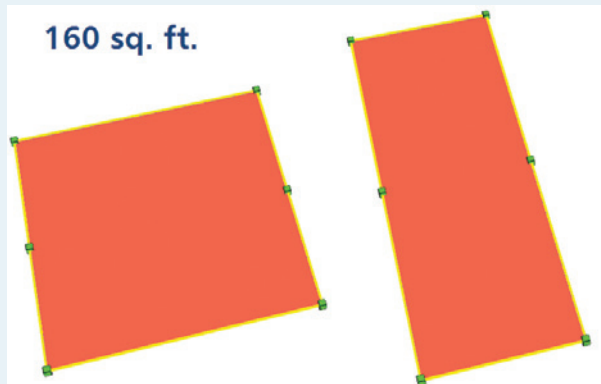

Figure 3.24: Scaling the Space component
8. When you start the Scale tool, you will be able to see the handles that are available. Use them to stretch the space component in various directions. As you can see, its area is automatically limited by the Dynamic Component to the entered value: 160 square feet, in this case. (See Figure 3.24.)